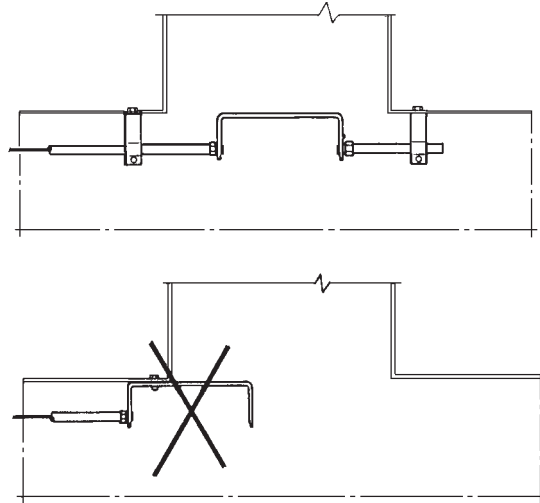

FIGURE 16
2. For a terminal detector located in a duct or header opening, secure both sides of the detector bracket with conduit, as shown in Figure 16.